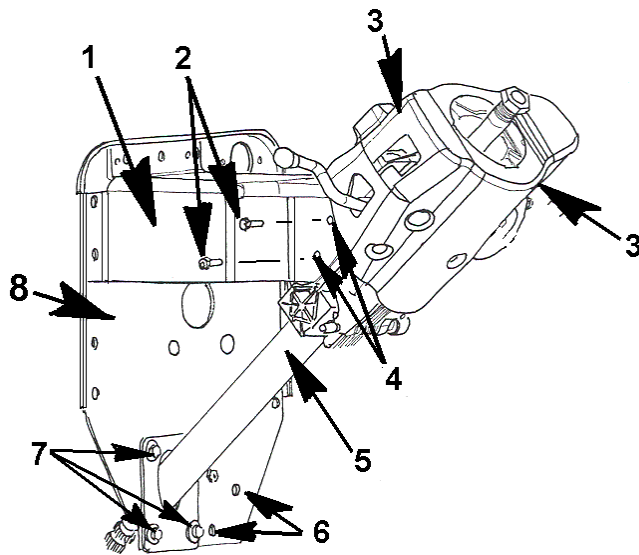

Figure 78 Steering Column Removal
5. Loosen and remove lower mounting bracket plate bolts (Figure 78, Item 7) located on cowl front wall plate.